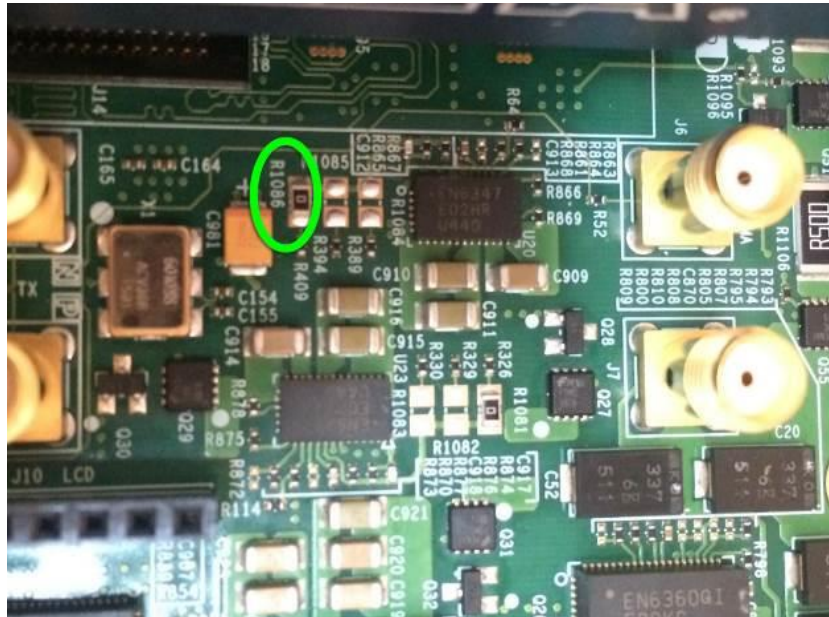

Figure 4-11 Adjust FMC_A VADJ to 1.8V (default) by short R1086
- Make sure the FMC_A's VADJ is set to 1.8V by short R1086 as shown in Figure 4-11.(The A10GFP version is Rev E3.1)